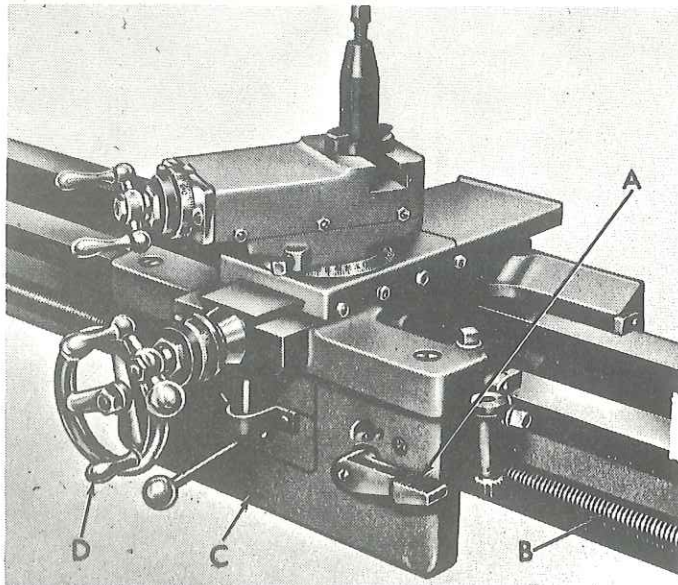

FIGURE 21
1. Raise half nut lever (A, Fig. 21) disengaging half nuts from lead screw (B).
2. Move carriage (C, Fig. 21) to tailstock end of lathe.
8. Rock carriage back and forth using handwheel (B, Fig. 21) and check lead screw end play.